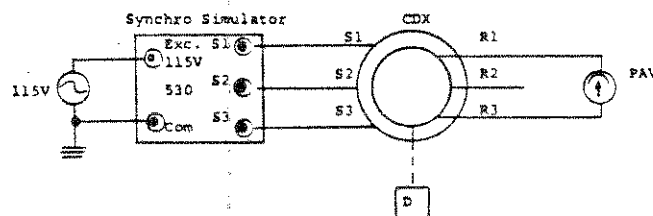

Figure 7-7. Angular Accuracy (Stator) (CDX)
- h. Set up equipment as shown in figure 7-7, with CDX still mounted in the dividing head.